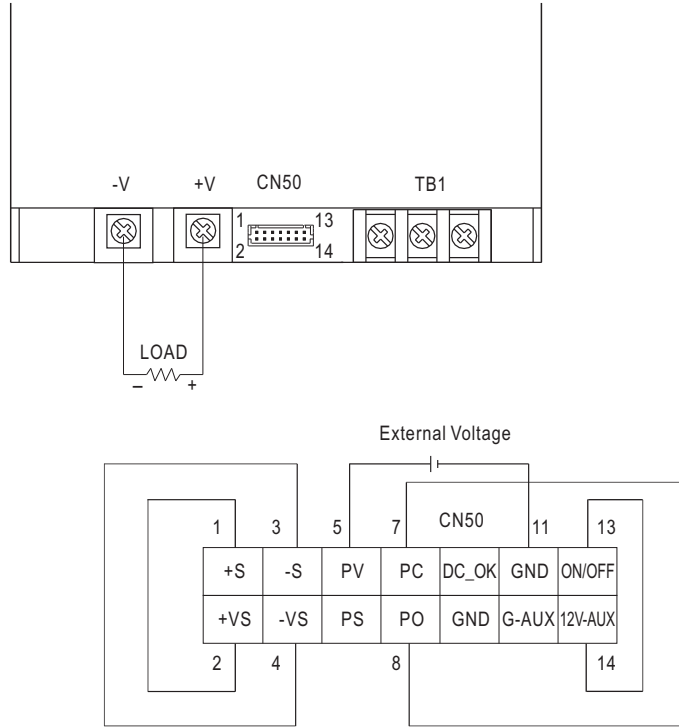

Fig 5.1
(1) Using external voltage source between "PV"(pin5) and "GND"(pin10,11) that is shown in Fig5.1